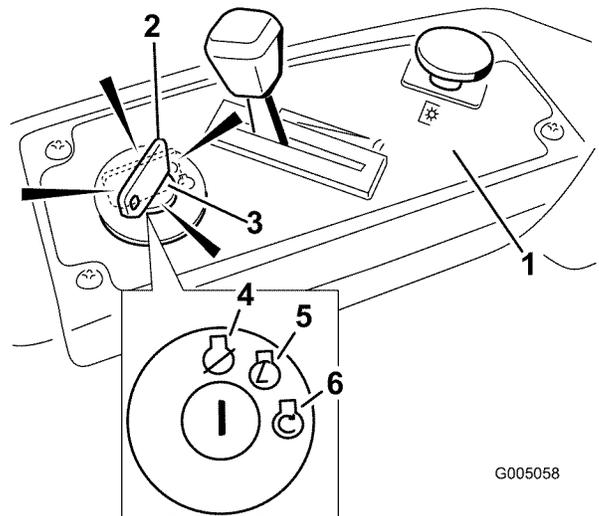

Figure 12
- 4. Turn the ignition key to Start to energize the starter. When the engine starts, release the key (Figure 12).
2. Move the throttle lever to between Fast and half throttle (Figure 12).